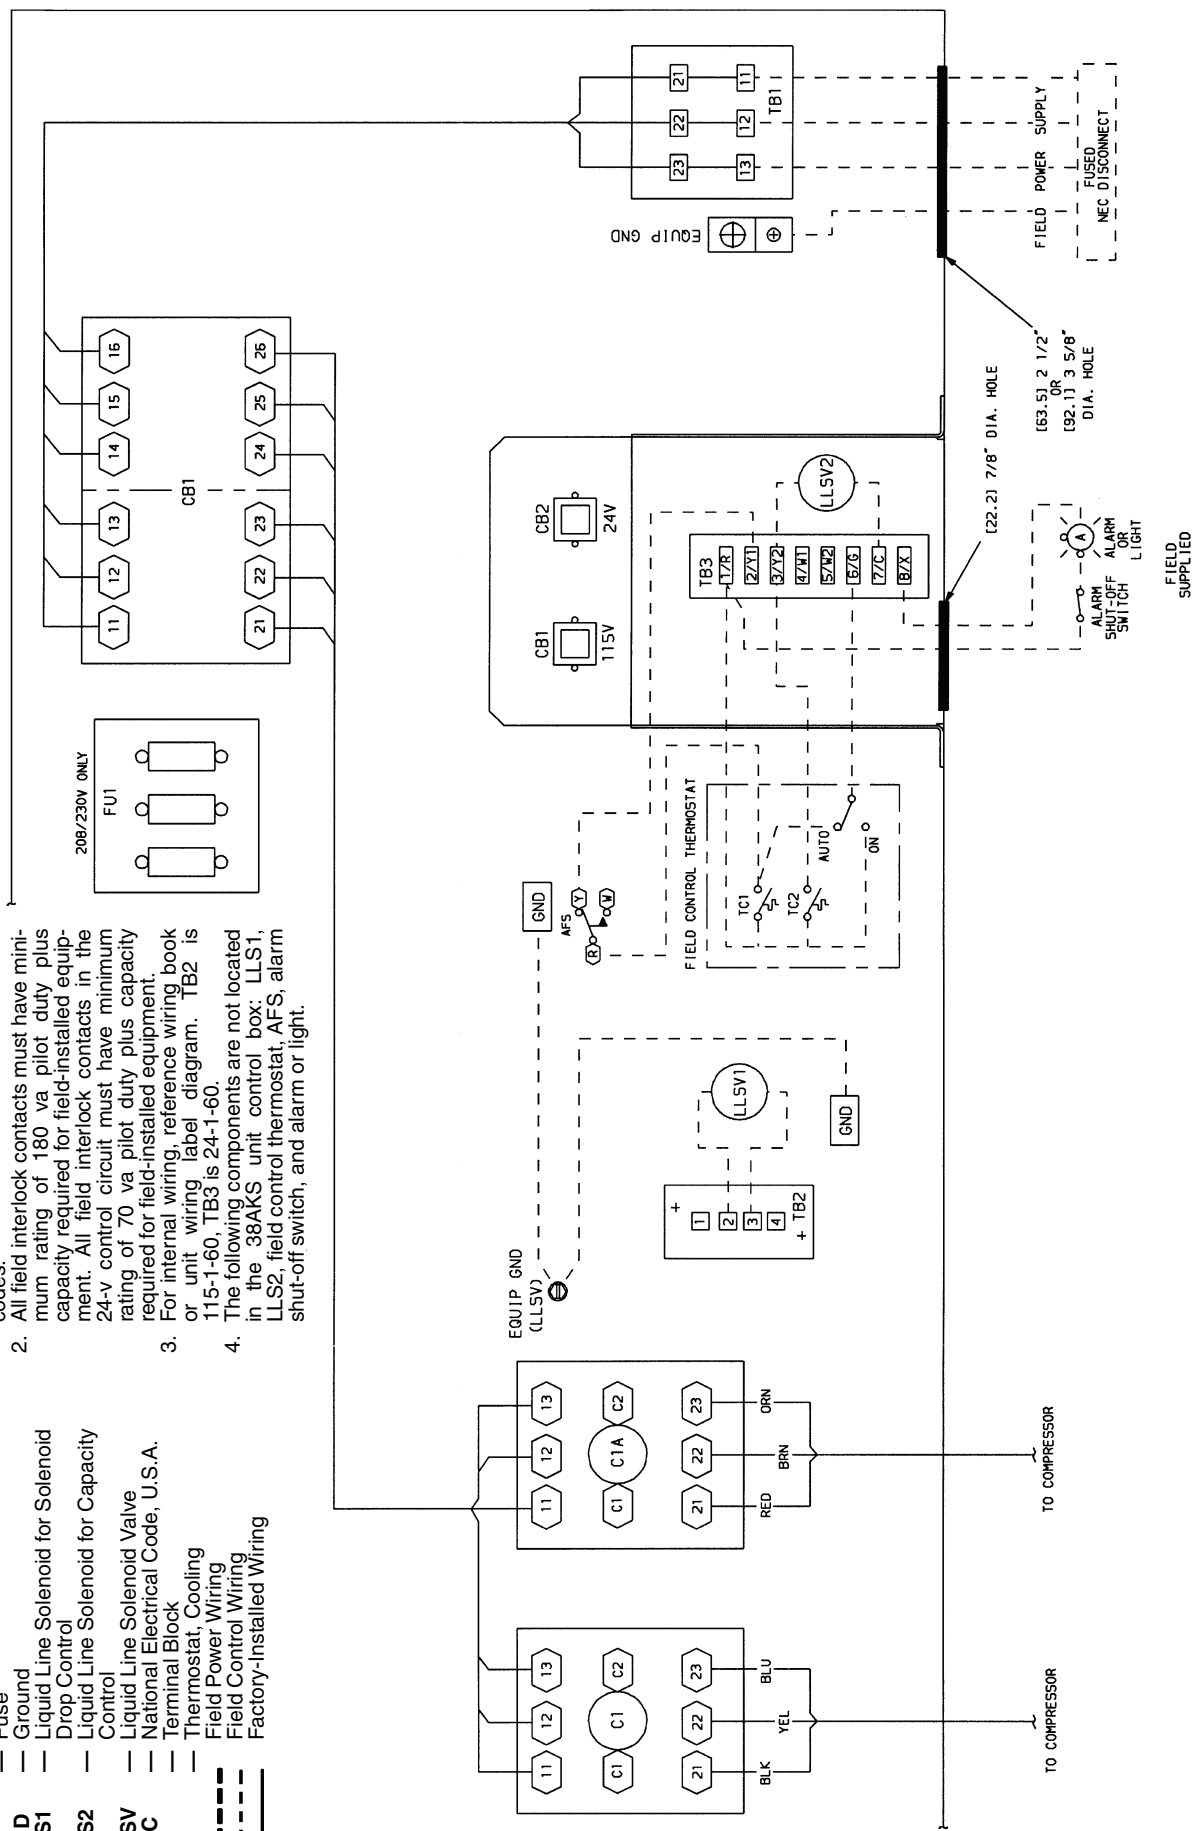

Fig. 13 — Typical Wiring Schematic, 38AKS Units — Control Circuit Interlock
4. **Control Circuit Interlock (38AKS units)** — An airflow switch may be installed in the indoor air handler to prevent unit from running when indoor air is not flowing. This switch (no. HR81JE001) is available from the Service Parts Center, or equivalent can be field supplied. This should be electrically interlocked in the control circuit, between thermostat TC1 (stage 1, cooling) and terminal 2/Y1 on TB3. See Fig. 13 for typical field wiring. This is in the 24-v circuit. Wires must be run in conduit with ground wire.